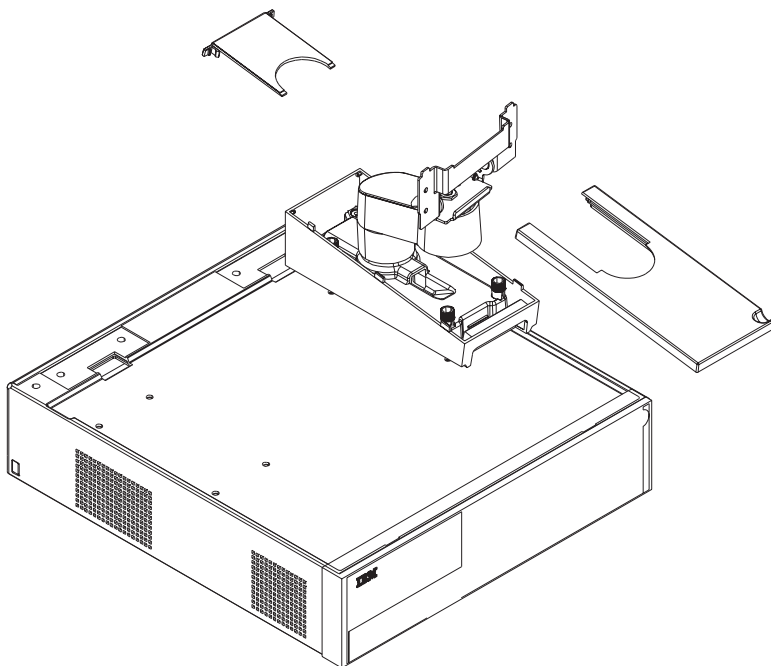

Figure 21. Securing the arm assembly to the SurePOS 720, 740, 780
7. Place the filler panel covers on the arm assembly as shown in Figure 21 on page 24.